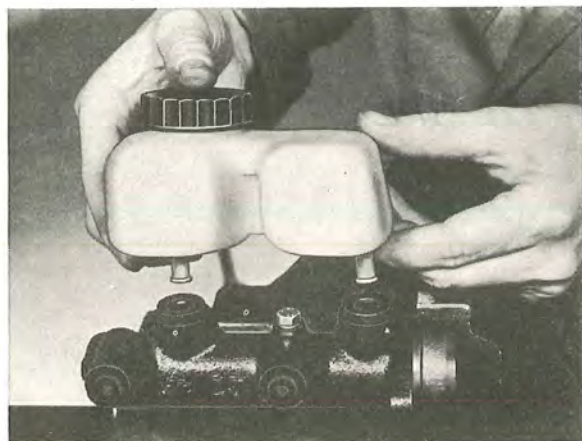

Fig. 5-45. Removing the container
1. Fix the flange of the master cylinder firmly in a vice, see Fig. 5-45.
7. Fit the rubber seals (3 and 5, Fig. 5-46). Fit the brake fluid container, see Fig. 5-45. Fill the container with brake fluid and vent the cylinder. Place plastic plugs in the cylinder. Check to make sure that the venting hole in the cap (1) is open and fit the strainer (2) and cap in position.